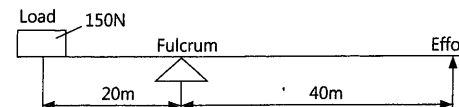

Figure 10.5
1. Study the diagram in Figure 10.5. Calculate the effort required to lift the load and then determine the mechanical advantage that the lever will give.